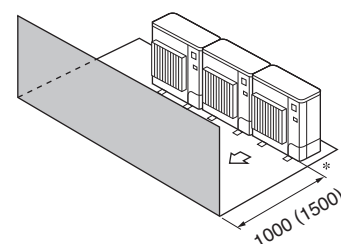

Fig. 1-13
- ③ Obstacles at front only (Fig. 1-13)